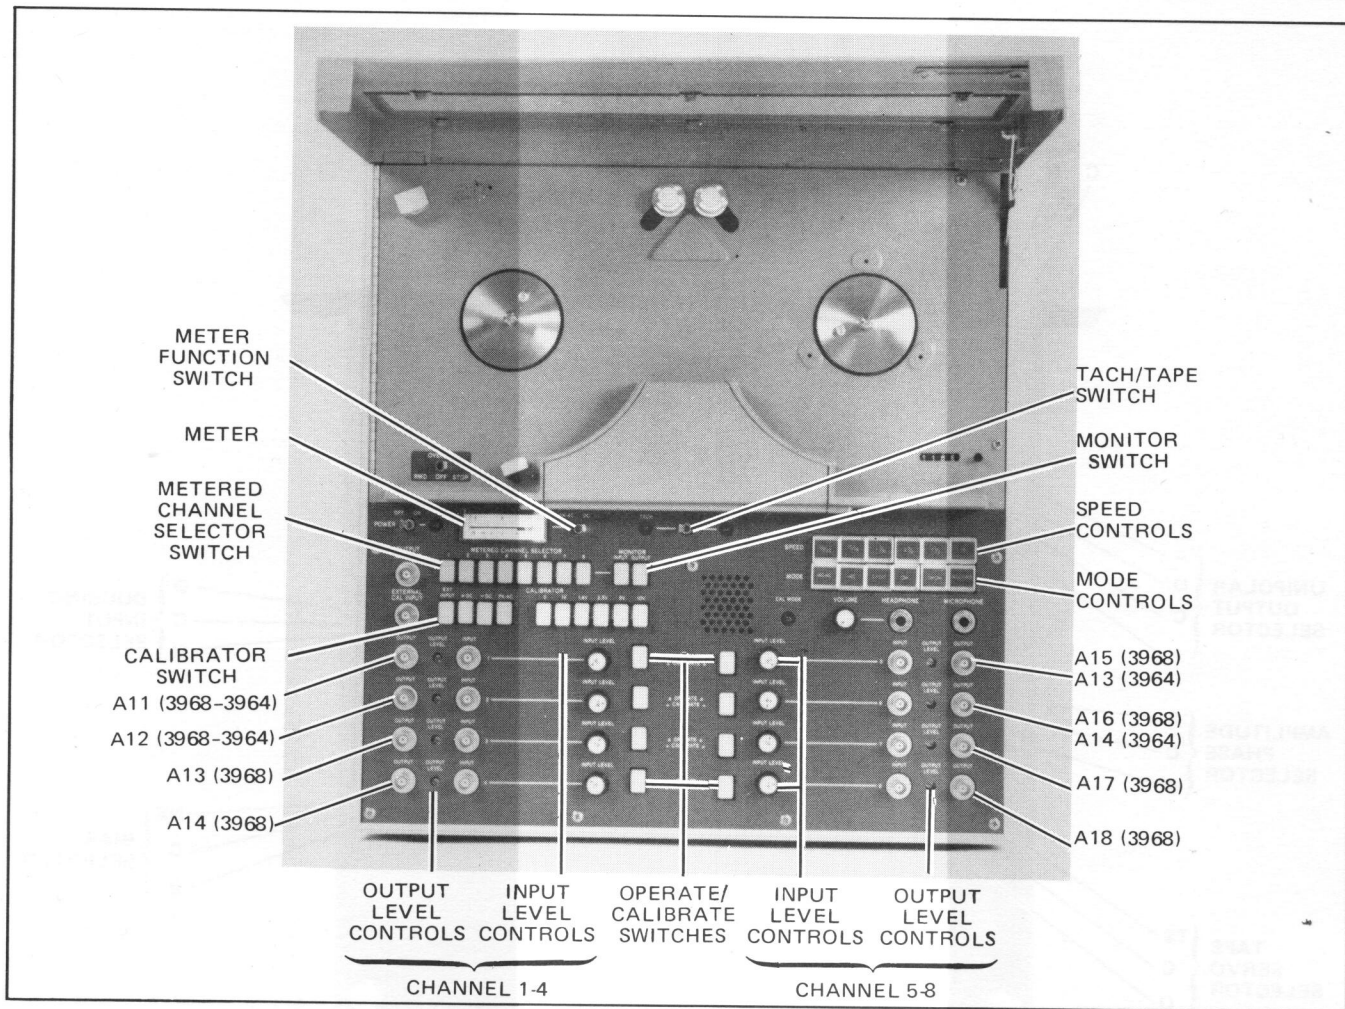

Figure 3-7. Record/Reproduce Controls
- e. Set the **METERED CHANNEL SELECTOR** switch to the desired channel, the **MONITOR** switch to **INPUT**, and the meter function switch to **PK-AC** (see Figure 3-7).